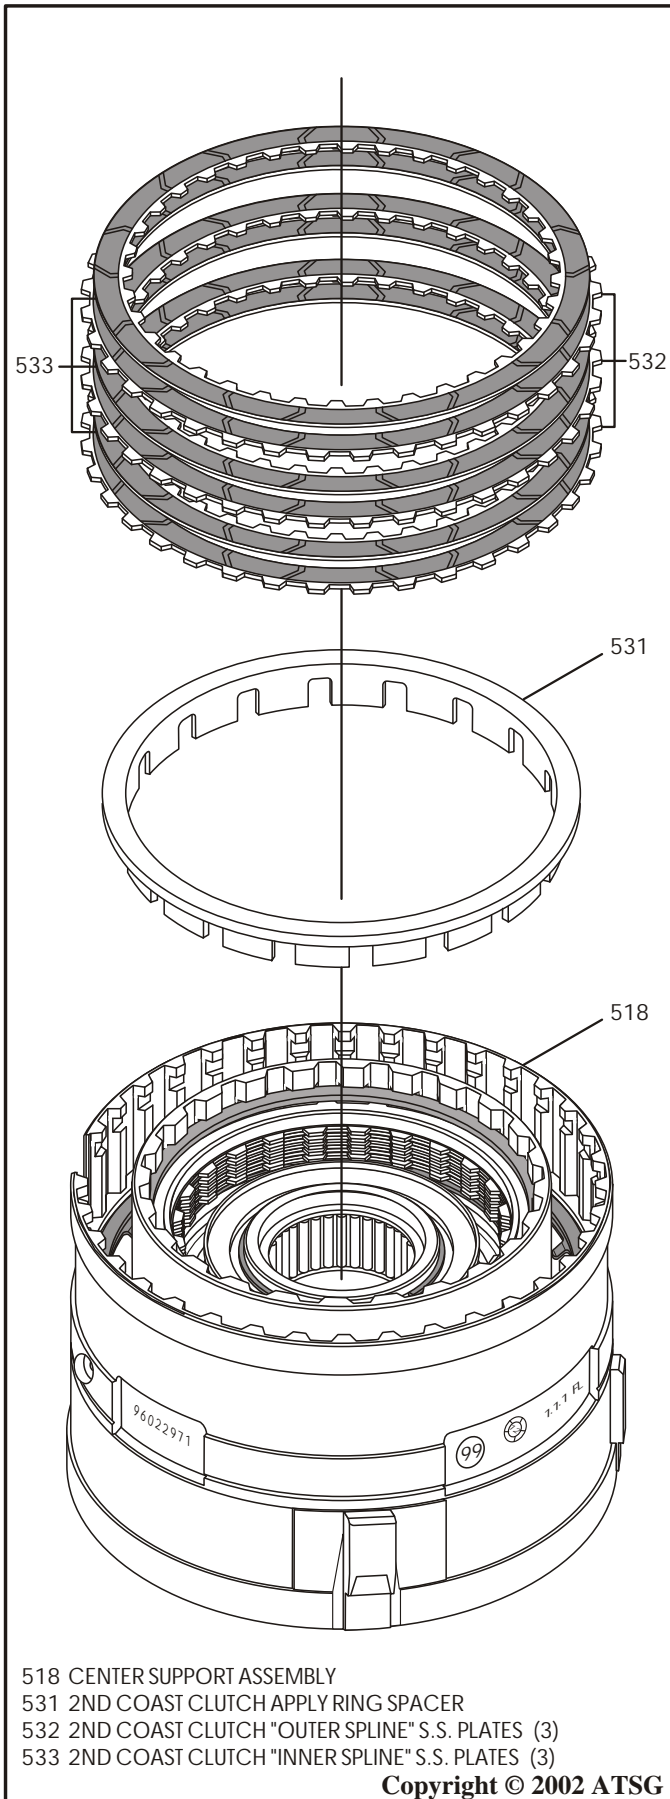

Figure 147
33. Install the 2nd coast clutch apply ring spacer, as shown in Figure 147, ensuring that slots are installed over return spring legs.
34. Install 2nd coast clutch "single sided" plates beginning with an outside spline plate first and alternating with inside spline plates until you have installed 3 of each (See Figure 147).
**Note: Lined side must be installed facing up, as shown in Figure 147. Clutch plate amounts may vary by model. This set of clutch plates are not used at all in the "4L40-E" models.**